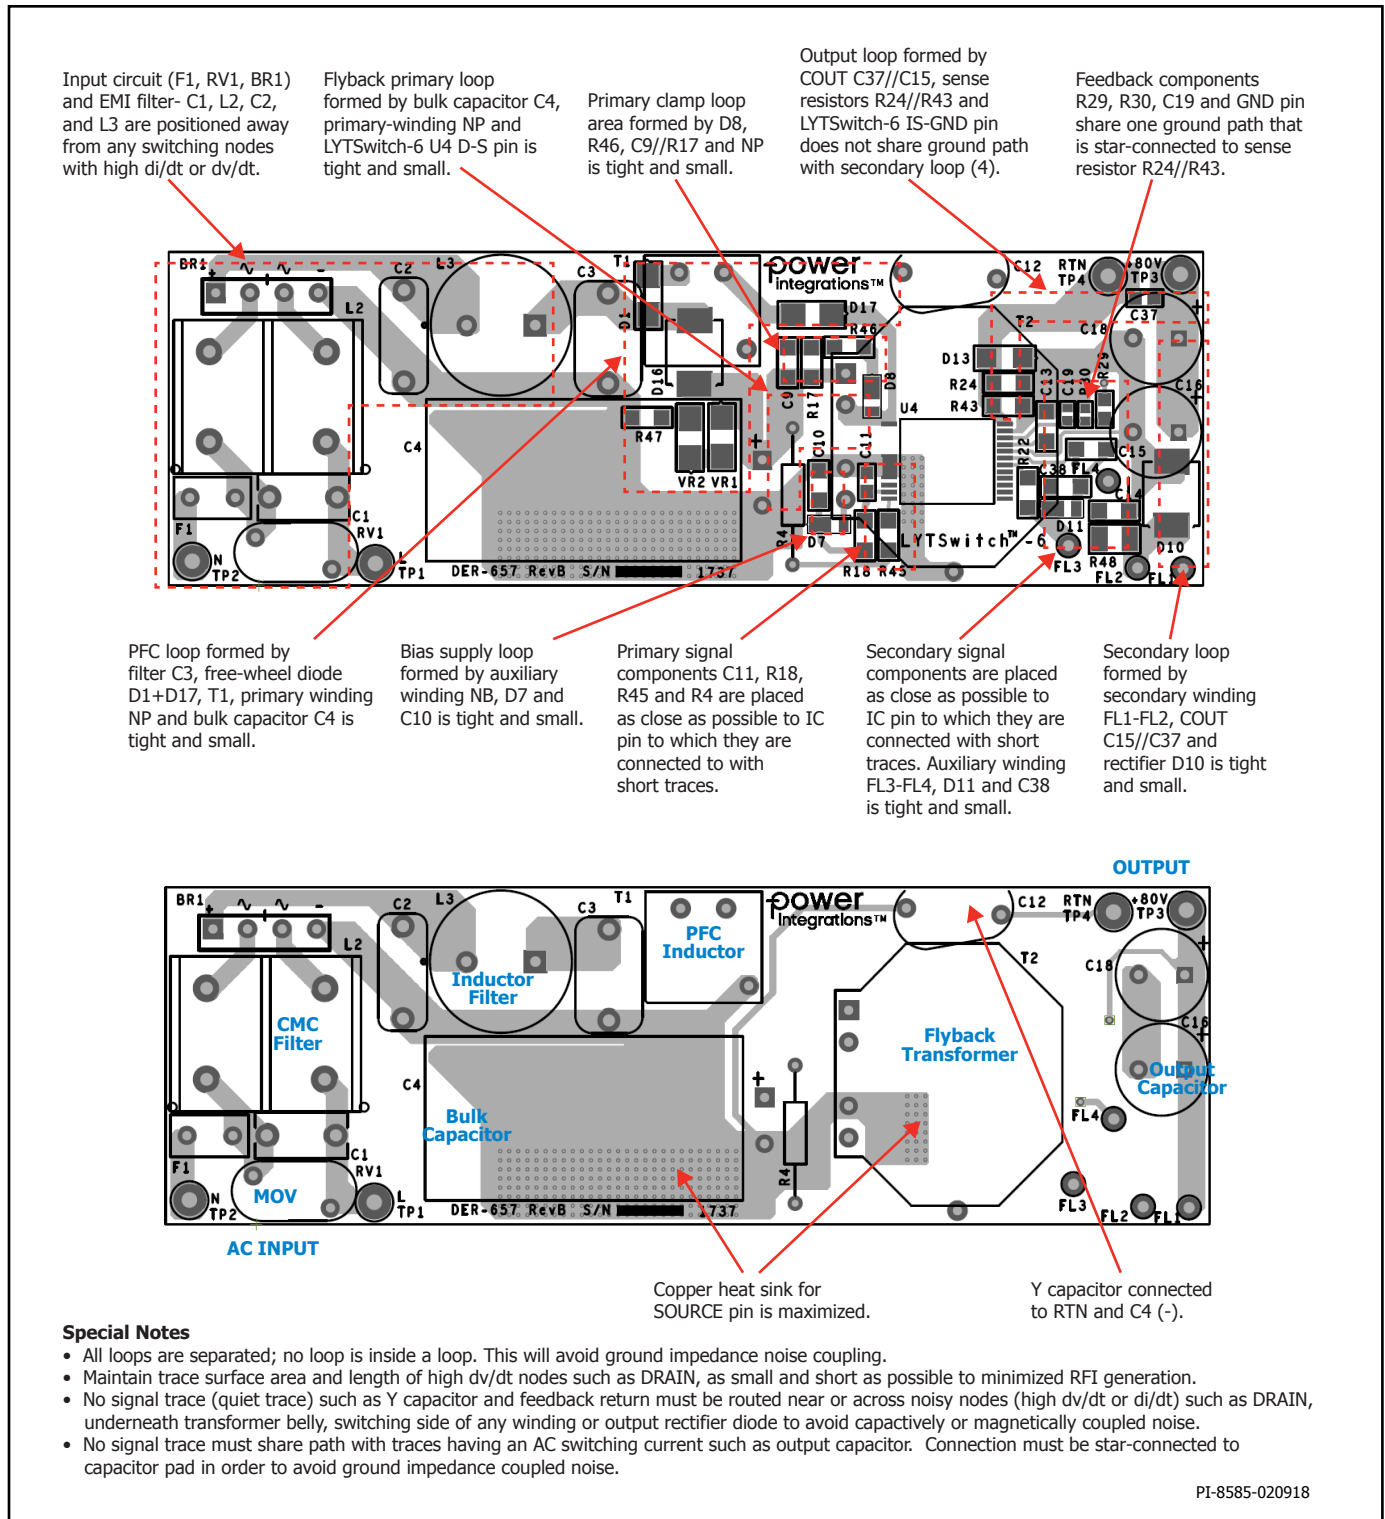

Figure 18. TOP and BOTTOM Sides – Ideal Layout Example Showing Tight Loop Areas for Circuit with High dv/dt and di/dt, Component Placement.
For output constant current (CC) operation, external current sense resistor R_{IS} should be connected between the ISENSE pin and the SECONDARY GROUND pin of the IC as shown in Figure 18. If constant current (CC) regulation is not required, this pin should be connected to the SECONDARY GROUND pin of the IC.
Use a single-point ground connection from the input filter capacitor to the area of copper connected to the SOURCE pin. See Figure 18.
Loops for circuits with high dv/dt or di/dt should be kept as small as possible. The area of the primary loop – input filter capacitor to transformer primary winding to IC should be kept small. Ideally, no loop should be inside another loop (see Figure 18). This will minimize cross-talk between circuits.
7. A π filter comprising differential inductors and capacitors can be used in the input rectifier circuit to reduce low frequency differential EMI. A ferrite bead (Figure 18) can be added to further improve EMI.
1. Appropriate component placement and small loop areas for the primary and secondary power circuits minimizes radiated and conducted EMI. Care should be taken to achieve a compact loop area. (See Figure 18)